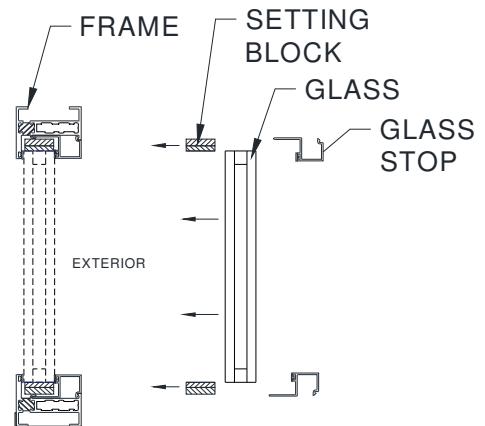

Figure 14:
Awning and Fixed: at 1/4 points into the top, bottom, and sides of the frame (Figure 14).
- Install glass to rest against the inner flange of the vent then install glass stops (Figure 14).